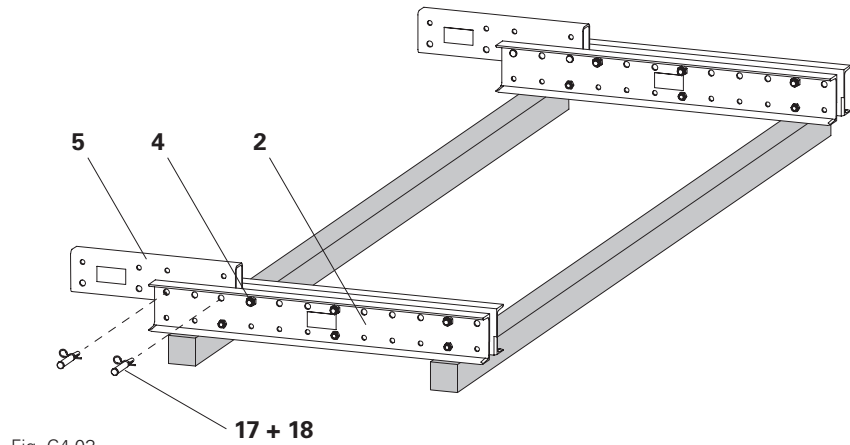

Fig. C4.03
2. Fit the climbing rail connector (**5**) at the upper end of the climbing rail (**2**) with 2x filler pins  $\varnothing$  26 mm (**17**) and cotter pins 5/1 (**18**). (Fig. C4.03)